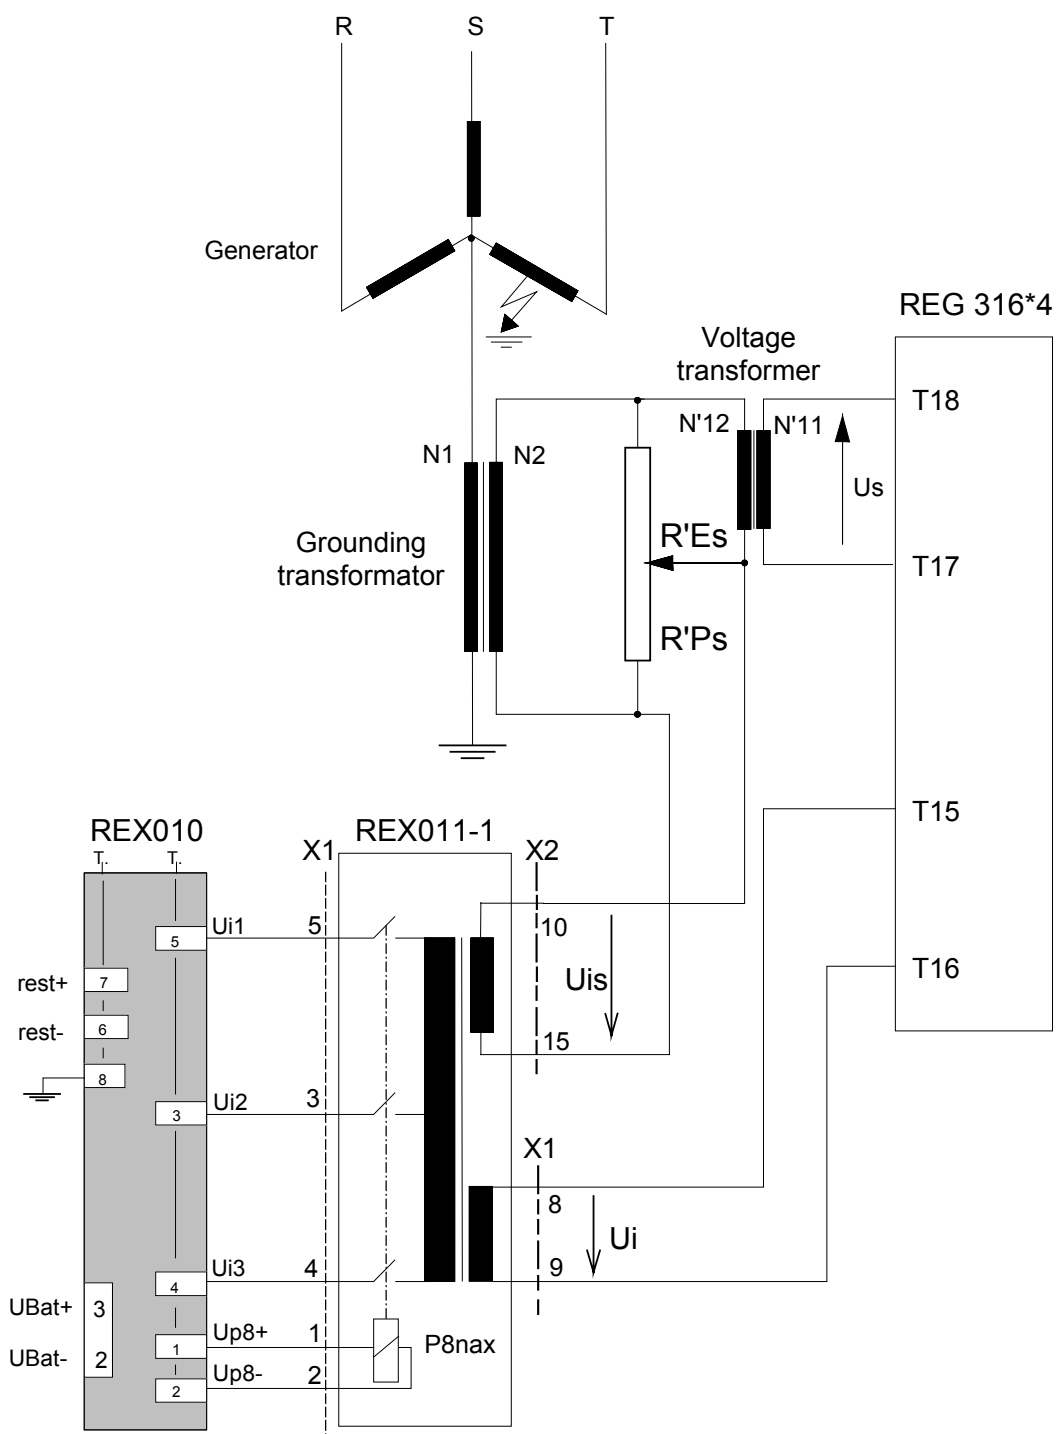

Fig. 2.5 Wiring diagram for secondary injection of the stator at the star-point using REX 011-1 (see Fig. 2.11)
- Fig. 2.5 Wiring diagram for secondary injection of the stator at the star-point using REX 011-1